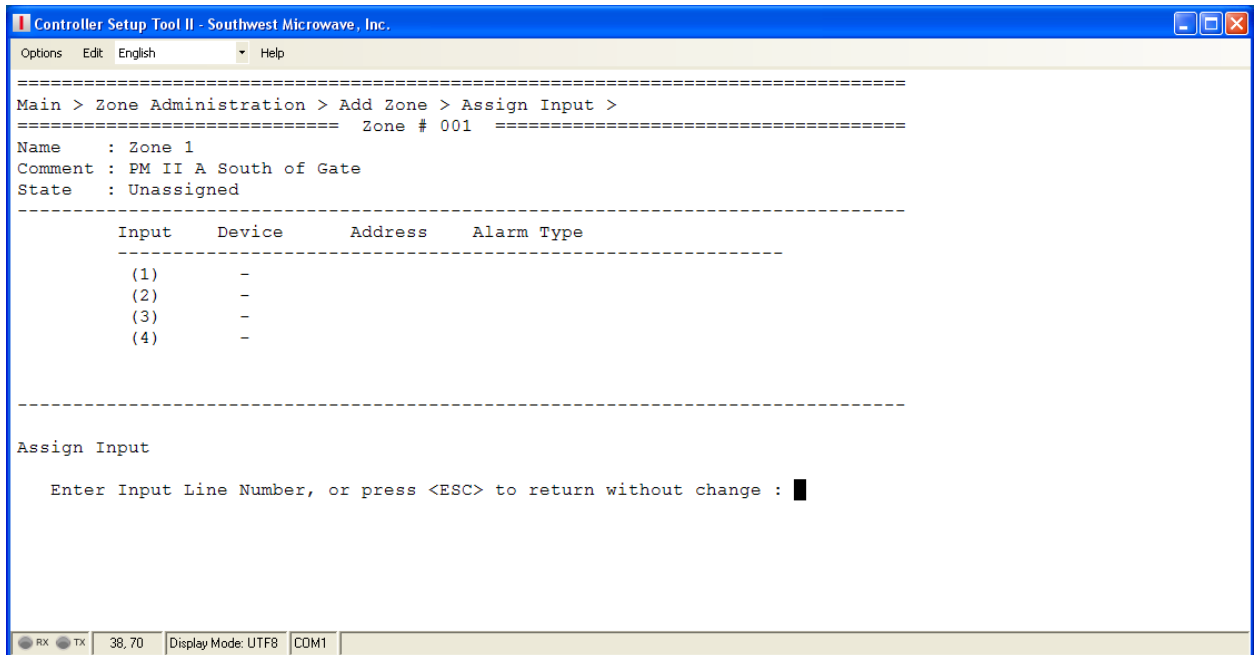

Figure 36 – Assign Input Line Number Screen
Selecting command 3 opens the “Assign Input” field that allows entering of inputs to the Zone Record. The Zone Record can have a maximum of four (4) inputs assigned as shown in Figure 36. The available inputs are determined by the devices that were found during the Device Discovery process. Inputs that would be available for assignment are: